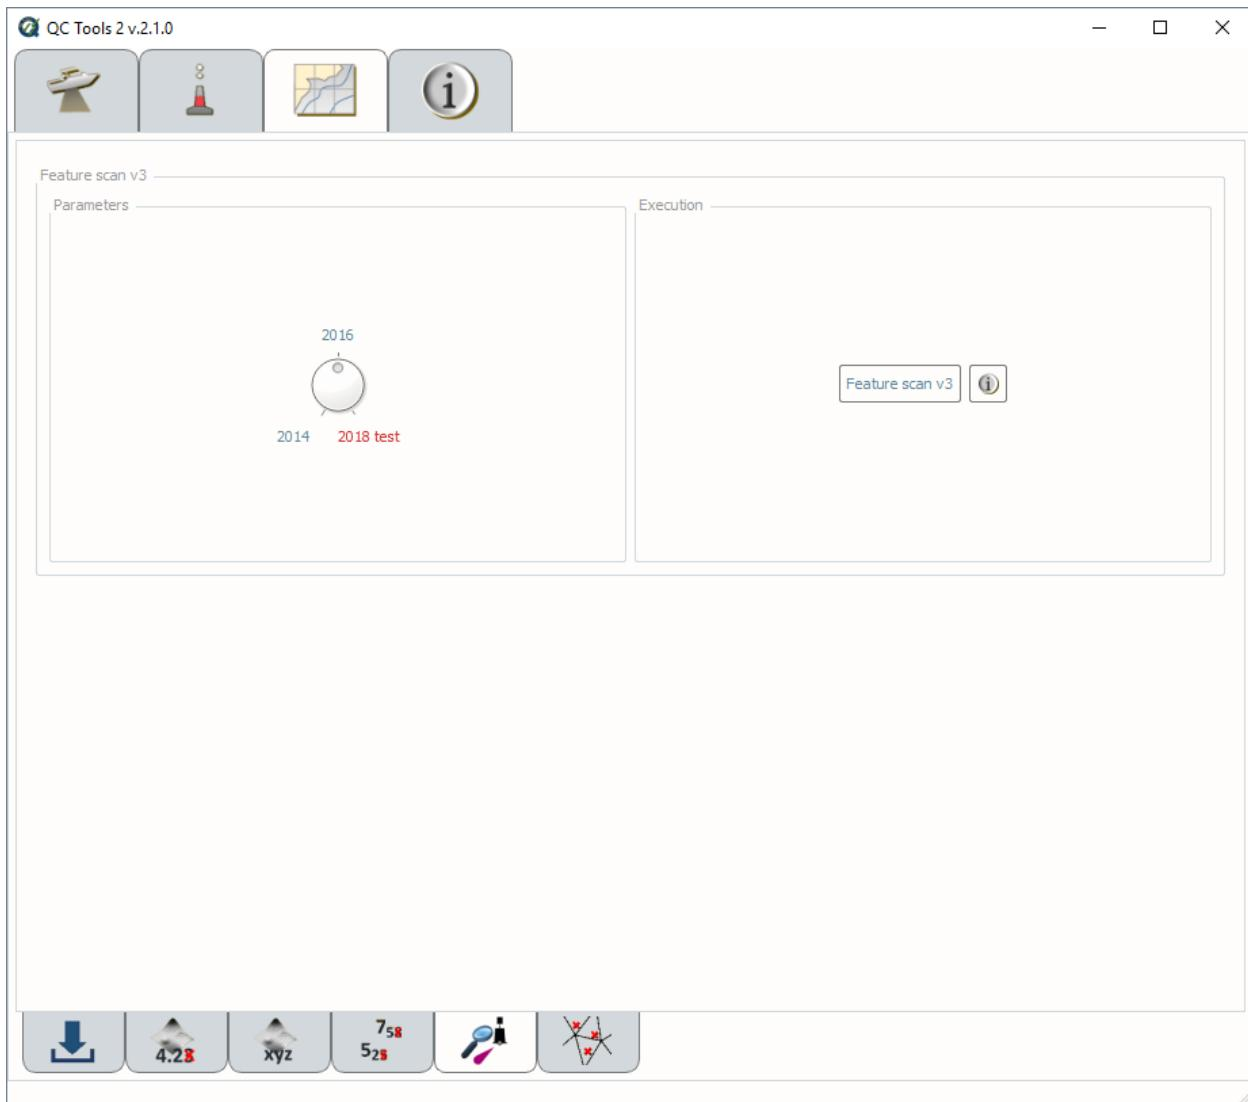

Fig. 2.62: Feature scan's interface.
- In **Parameters** (Fig. 2.62, left side), turn the knob to select the required year of HCell Specification. Currently, the ‘2018 test’ is duplicative to 2016.
- In **Execution** (Fig. 2.62, right side), click **Feature scan v2**.